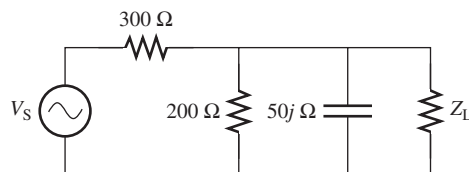

FIGURE P6.48 Circuit for Problem 6.48.
- 6.48 (A) Sketch the Thévenin and Norton equivalent circuit for the circuit shown in Figure P6.48, where $V_S = 20 \angle 30^\circ$.